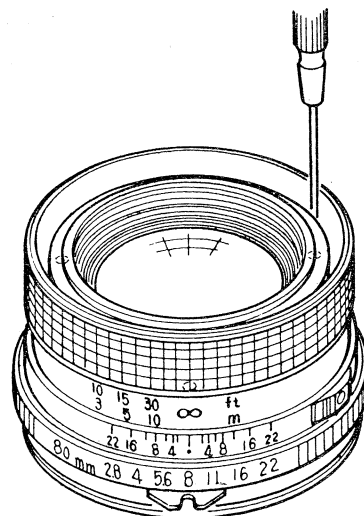

Fig.3
- 2) After loosen three screws 3PB1.4x4BNi as shown in Fig. 3, set the lens on SLS-4 l.f.b. stand and adjust it by the auto-collimator.